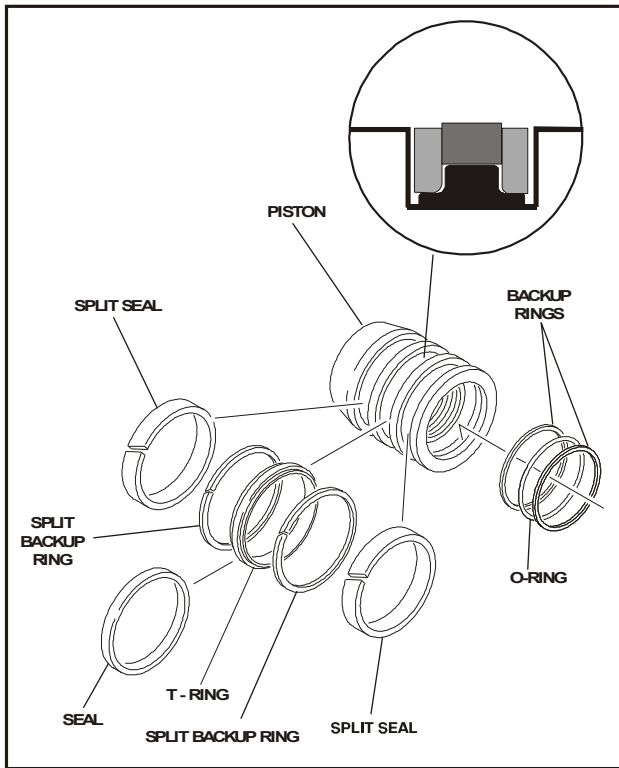

Figure 4-10. Piston Seal Kit Installation
16. Place new guide locks and seals in the applicable outside diameter grooves of the cylinder piston. (See Figure 4-10.)